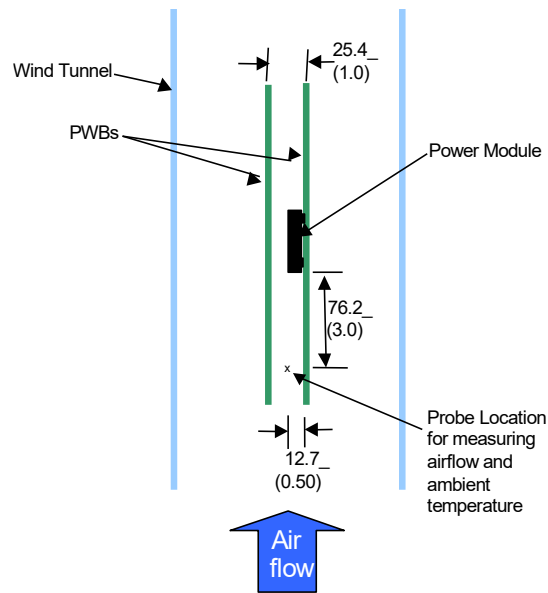
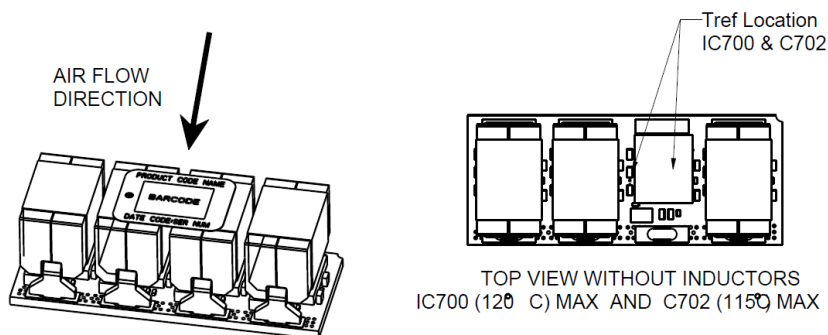

Figure 28. Thermal Test Setup.
Figure 29. Preferred airflow direction and the location of the thermal reference points
Power modules operate in a variety of thermal environments; however, sufficient cooling should always be provided to help ensure reliable operation. Considerations include ambient temperature, airflow, module power dissipation, and the need for increased reliability. A reduction in the operating temperature of the module will result in an increase in reliability. The thermal data presented here is based on physical measurements taken in a wind tunnel. The test set-up is shown in Figure 28. The preferred airflow direction for cooling the module and the thermal reference points, Tref used in the specifications are shown in Figure 29. For reliable operation the temperatures at these points should not exceed 120°C (IC700) and 115°C (C702). The output power of the module should not exceed the rated power of the module ($V_{o,set} \times I_{o,max}$). Please refer to the Application Note “Thermal Characterization Process for Open-Frame Board-Mounted Power Modules” for a detailed discussion of thermal aspects including maximum device temperatures. Increased airflow over the module enhances the heat transfer via convection. The thermal derating of figures 2, 8, 14 and 20 show the maximum output current that can be delivered by each module in the indicated orientation without exceeding the maximum Tref temperature versus local ambient temperature (TA) for several air flow conditions. The thermal derating curves were generated using a 12 layer evaluation board with 3oz copper in inner layers and 2 oz in outer layers